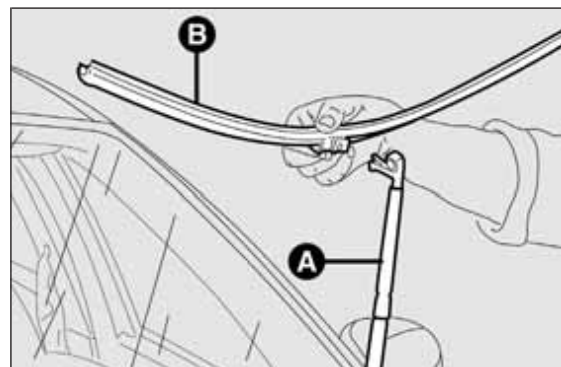

fig. 24I
- ☐ raise the windscreen wiper arm A fig. 24I and position the blade so that it forms an angle of 90° with the arm;